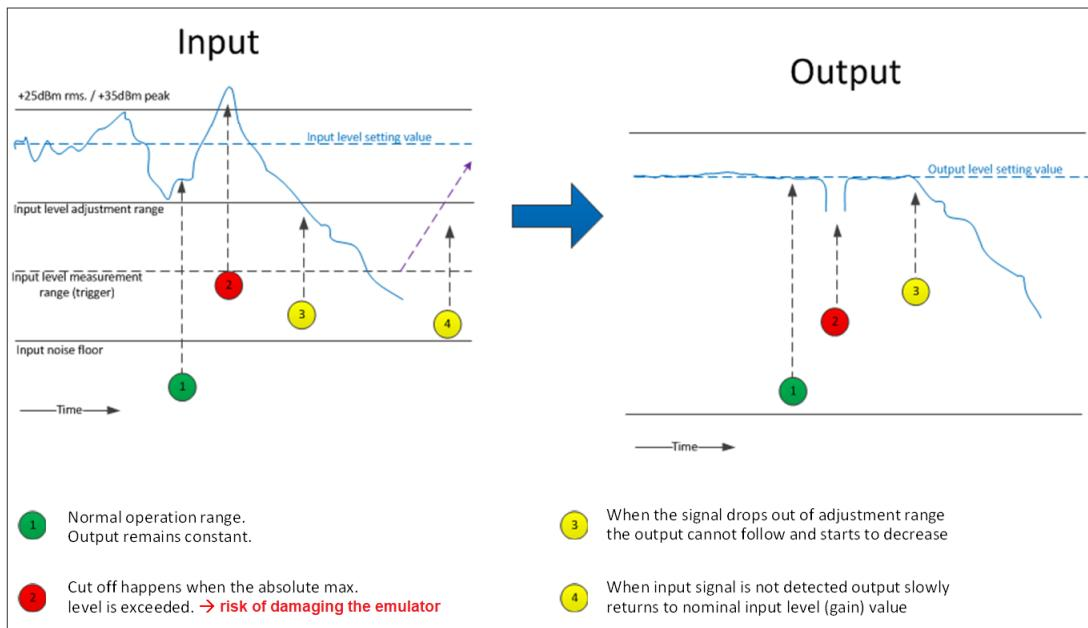

Figure 83 Illustration of automatic input level control operation in “AGC” mode
- AGC operation is illustrated in Figure 83.